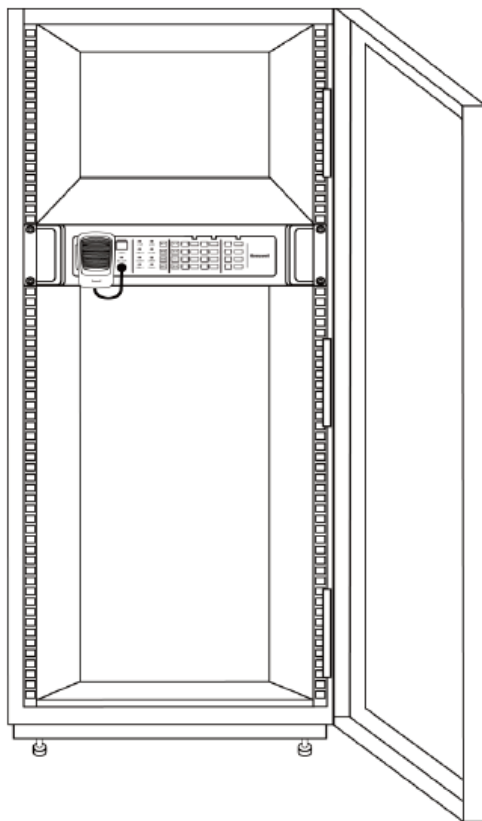

Figure 12 Schematic Diagram of Installing the ZS-2000M in the Cabinet
3. Put the ZS-2000M appliance into the cabinet, and tighten the screws to secure the unit, as shown in Figure 12.
5. Install the ZS-1500/ZS-2250/ZS-4125 appliance into the cabinet, and tighten the screws to secure the unit, as shown in Figure 12.